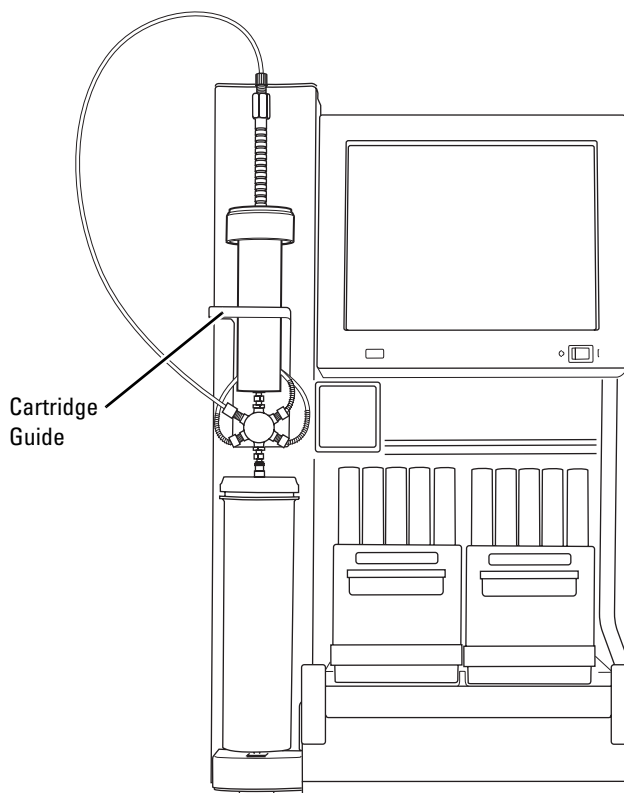

Figure 7: Secure the cartridge assembly on the CombiFlash Rf system
7. Insert the cartridge assembly through the cartridge guide and secure it to the Luer fitting (Figure 7).